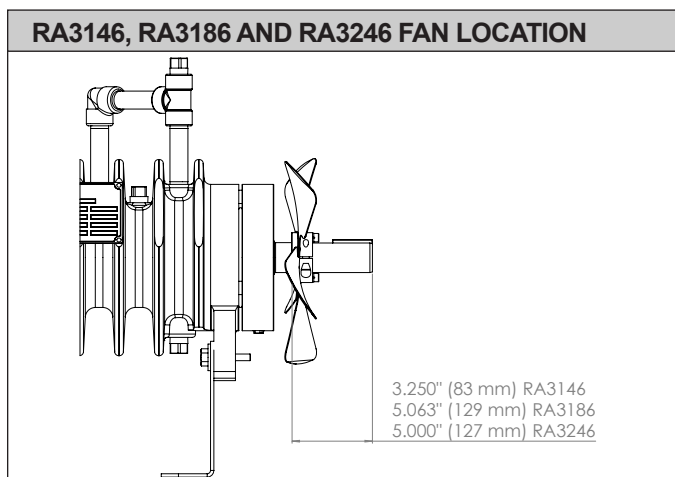

Figure 17
- S) Mark (pencil or light scribe) a line on the pump shaft (29), 3-1/4” (83 mm) for the RA3146, 5-1/16” (129 mm) for the RA3186, and 5” (127 mm) for the RA3246 from the coupling end. Place the fan collar (121), grooved face first, onto the pump shaft and up to the mark. Refer to Figure 17 below. Tighten the fan collar locking screw tightly.
- T) Insert the coupling bolts through the lockwashers and the pump coupling hub. Place the hub onto the pump shaft (29), positioning the outer face of the hub flush with the end of the pump shaft. Install the coupling key and tighten the hub set screw(s).
- V) Place the end cover (28) carefully over the pump shaft (29) and bolt it securely into position against the bearing housing (26). Torque the end cover bolts to 11 lb.ft. (15 N.m).
- W) Insert the four coupling bolts through the lockwashers and the fan clamp ring (122) from the side opposite of the raised face. The clamp ring is made to fit three different sizes of couplings, so you must insert the bolts into the holes that match the coupling hub that you are using. Slide the clamp ring onto the pump shaft (29) with the raised face facing the motor.
Place the fan (120), with the concave side of the blades towards the pump, over the end of the pump shaft, onto the coupling bolts and up against the clamp ring. Refer to Figures 17 and 18 on page 32. The concave side of the fan blade was indicated with a label "PUMP SIDE" at the time it was shipped from the factory.
- X) Place the coupling hub over the end of the pump shaft (29) and onto the coupling bolts, until the face of the hub is flush with the end of the pump shaft. Install the coupling key, with the end of the key flush with the end of the pump shaft and the face of the hub. Tighten the hub set screw(s).
- Y) Place the impeller key (4) into the keyway of the pump shaft (29). Carefully slide the impeller (3) onto the pump shaft (29).
- 1) If the pump is a RA2096, slide the impeller washer (12A) over the pump shaft (29) and against the impeller (3). Thread one of the impeller nuts (12) onto the pump shaft (29) and tighten it to a torque of 40 lb. ft. (54 N.m). Thread the second impeller nut (12) onto the end of the pump shaft (29) and tighten it to a torque of 40 lb. ft. (54 N.m). Hold the pump shaft (29) against the tightening torque by placing a wrench on the flats of the coupling hub. Be careful to not bend the blades of the fan (120).
- 2) If the pump is a RA3146/RA3186/RA3246, place the impeller washer (12A) on to the impeller bolt (12) and